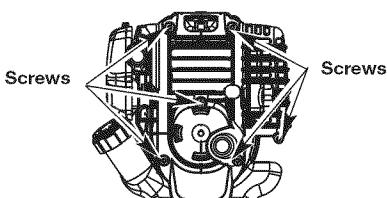

Fig. 30
1. Remove the six (6) screws on the back of the engine cover with a Flat-head or T-25 Torx screwdriver (Fig. 30).
4. Remove the engine cover (Fig. 30).
5. Clean dirt from around the rocker arm cover. Remove the screw holding the rocker arm cover with a large flat blade screwdriver or Torx T-25 bit (Fig. 30). Remove the rocker arm cover and gasket.